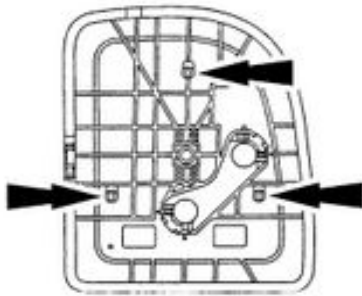

FIGURE 7
5. Remove the friction pins taped to the back of the mirror glass backing plate assembly. Align the friction pins vertically to the exterior mirror glass backing plate assembly's sockets and push down to snap the friction pins pivot balls into the sockets (refer to Figure 7).